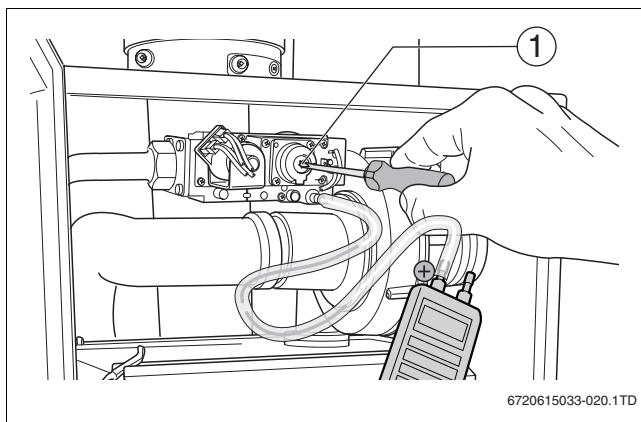

Fig. 16 Setting the gas/air ratio
- If the gas/air ratio is not correct it can be adjusted using the adjustment screw (→ fig. 16, [1]). The adjustment screw is located behind the cover screw.